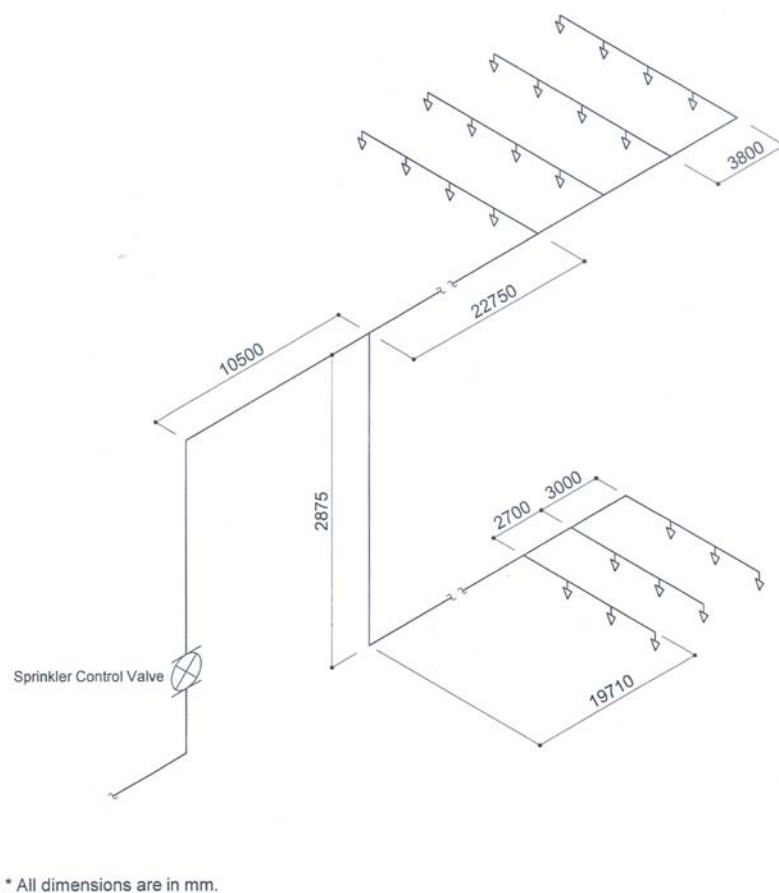

Figure 3. Isometric design of an Ordinary Hazard Group II sprinkler system
Use the isometric design of an Ordinary Hazard Group II sprinkler system as shown in Figure 3, to design according to the pre-calculated method.
- Determine the water supply requirements and show them on Figure 3.